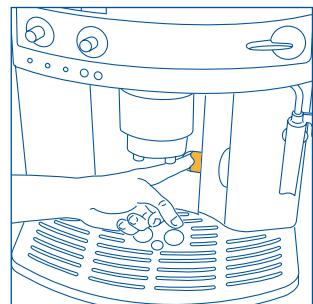

Fig. 15
NOTE 7: the machine counts the number of cups of coffee made. Each 14 single cups (or 7 double cups), the  light switches on steady (section 12 point 3), warning the user that the grounds container is full and must be emptied and cleaned. Until the grounds container has been cleaned, the light will remain on and the machine cannot deliver coffee. To clean the container, open the service door on the front (pulling the handle, Fig. 15), the  light flashes (see section 12, point 9); remove the drip tray (Fig. 16), empty and clean. Empty and carefully clean the grounds container, making sure to remove all the residue that may be deposited on the bottom. Also, dry off any condensation that may have formed that may have formed inside the machine under the drip tray. **IMPORTANT:** when removing the drip tray, the grounds container MUST be emptied, even if it is not completely full. If this is not done, when making your next coffee, the grounds container may fill over the maximum level and block the machine.
- open the service door (Fig. 15);